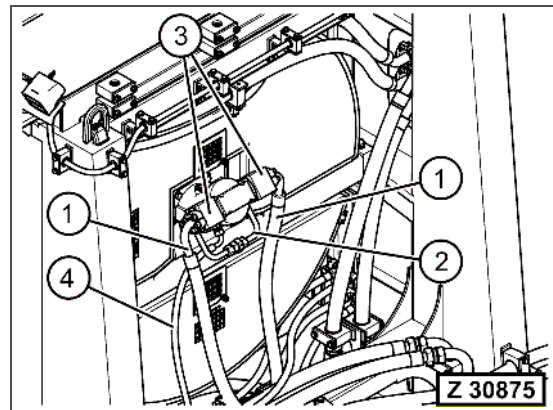

Fig. 3-218
8. Disconnect the hydraulic-pressure hoses (Fig. 3-218, Pos. 1).
9. Disassemble the piping arch (Fig. 3-218, Pos. 2) incl. the valve.
10. Disassemble the flange blocks (Fig. 3-218, Pos. 3) from the hydraulic motor.
11. Disconnect the leak oil hose (Fig. 3-218, Pos. 4) from the hydraulic motor.